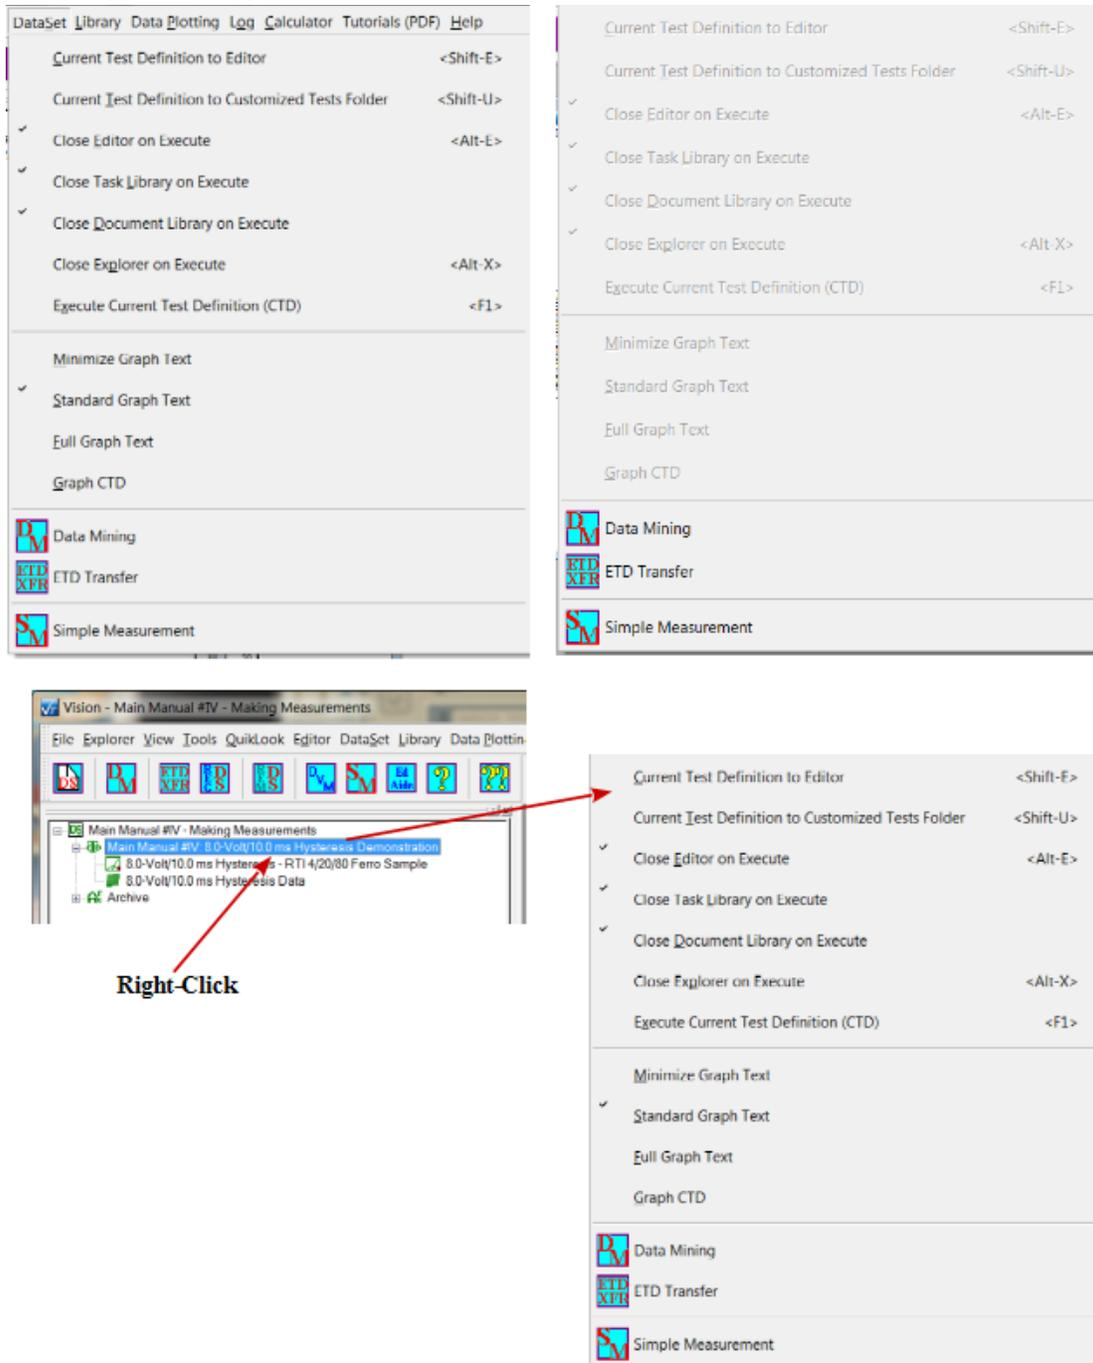

Figure 2 - DataSet Operation Menu.
V.G - DataSet (Figure 2) - Perform operations on and/or configure the selected DataSet. This menu is also available by selecting the Current Test Definition (CTD) name and right-clicking. If no DataSet is open, most of the menu options are disabled. "Data Mining", "ETD Transfer" and "Simple Measurement" are processes that can be initiated without an open DataSet.